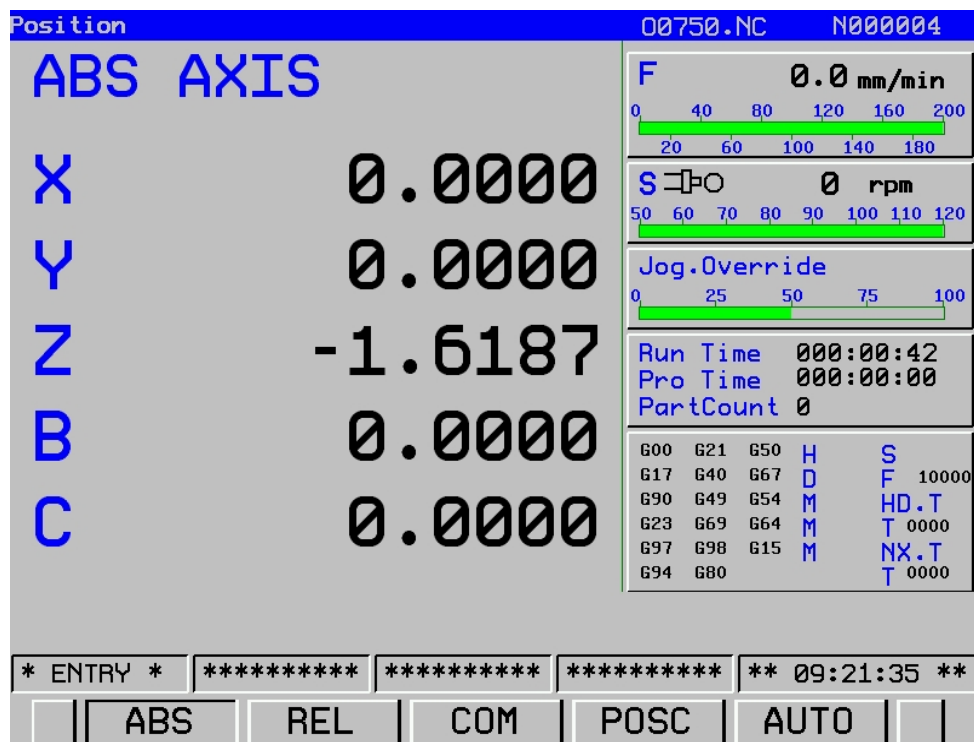

Fig. 3-1-1 Absolute coordinates
- 1) **Absolute mode:** Press **【ABS】** key to display current tool position on current coordinate system. It is called “absolute coordinate” hereafter (see Fig. 3-1-1)